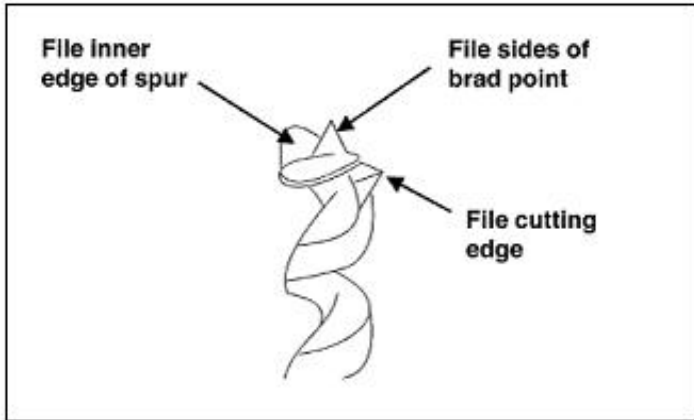

Fig 7
- Sharpen the bit by using a small, smooth file, following the original shape of the bit. File the inside edge of the spur, the sides of the brad point, and the cutting edge inwards toward the flute of the bit. See Fig 7. Do not file the outside edge of the spur as this will affect the diameter of the bit.